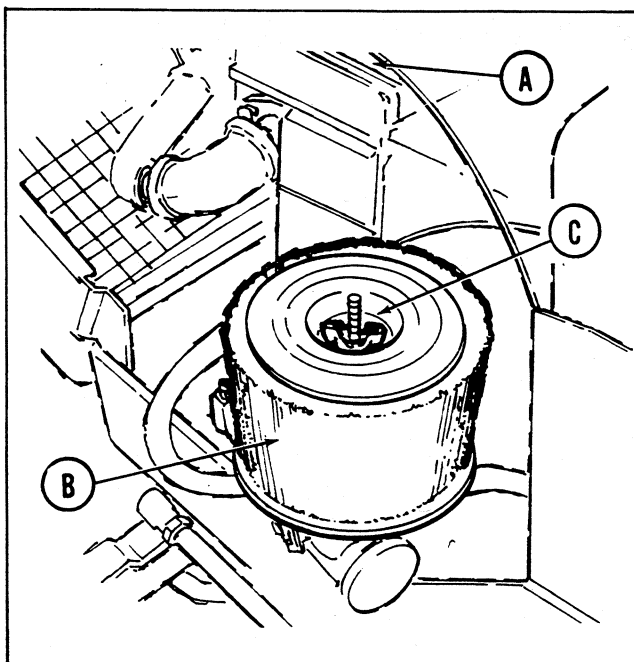

Figure 21. Air cleaner with cover removed on left side of engine.
See figure 21. All grass and chaff should be removed from the engine fins (A). **CAUTION: THE ENGINE FINS ARE VERY HOT AFTER THE ENGINE HAS BEEN OPERATED. DO NOT TOUCH THEM UNTIL THE ENGINE HAS BEEN ALLOWED TO COOL. NEVER SPRAY WATER ON A HOT ENGINE.**
2. See figure 21. Remove the foam pre-cleaner (B) and wash it in liquid detergent and water and squeeze dry.
4. Install the foam pre-cleaner as shown in figure 21.
CLEAN OR REPLACE AIR FILTER ELEMENT: The engine air cleaner is made up of two types of filters. The foam filter (Figure 21, item B) and a dry filtering element. The foam element should be cleaned and oiled every 25 hours as explained under the Every 25 Hour Maintenance Services. Once a year or every 100 hours, whichever occurs first, the paper element should be removed and cleaned or
2. See figure 21.. Remove the foam element (B) and clean and oil it as described in the Every 25 Hour Maintenance Service.
3. Remove wing nut (C) and remove the paper element from the air cleaner.
5. See figure 21. Replace the paper element and wing nut (C) and tighten it securely.
6. Install the foam element (B) over the paper element as shown in figure 21.